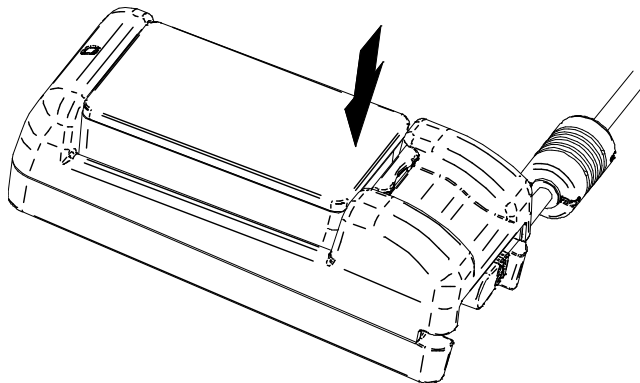

Figure 17-6 Battery Pack Installation (2)
- (2) Press the battery pack in the direction of the arrow in Figure 17-6 until the tab "b" of the battery pack locks in the groove "B" of the battery charger.